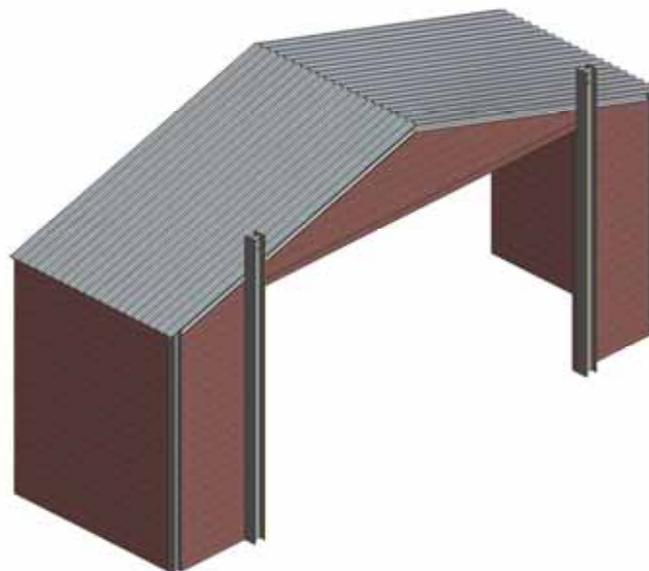

Figure 13b
13.3 Cantilever tracking extensions above the building (Figure 13b): Contact Head Office for further advice